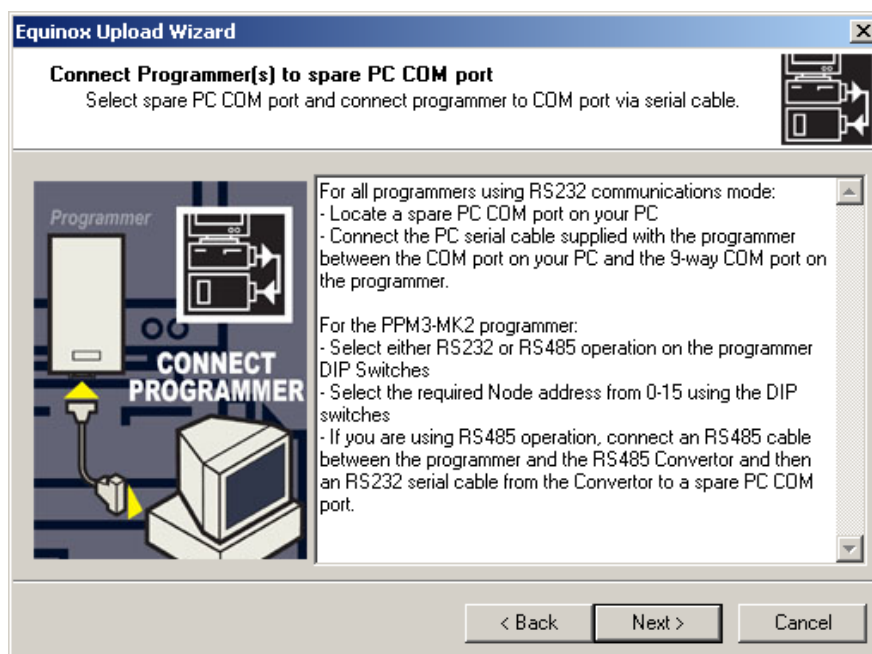

Figure 19 Programmer Upload Wizard – Connect Programmer
2. Press *Next* and the window depicted in Figure 19 will open